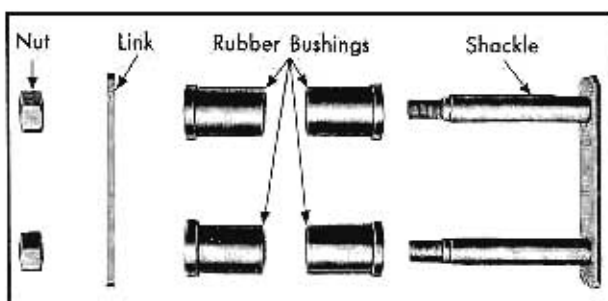

Fig. 6-27 Rear Spring Shackle Disassembled
4. Remove rear spring shackle nuts and link, Fig. 6-27.